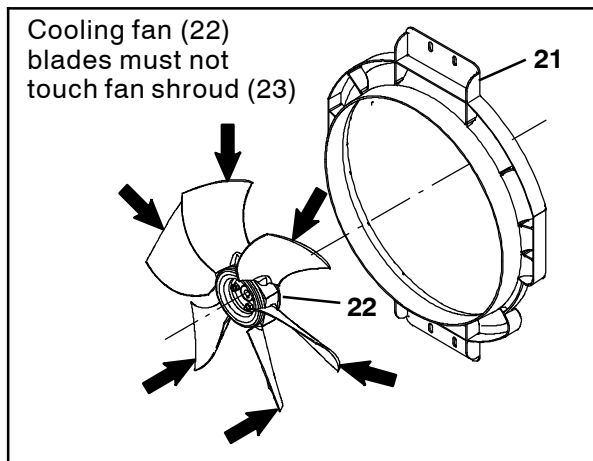

FIG. 8
21. Check the spacing of the cooling fan (22) blades to the fan shroud (21). The cooling fan blades **must not** touch the fan shroud. Adjust the positioning of the fan shroud as necessary so fan blades are not touching the shroud (Fig. 8)